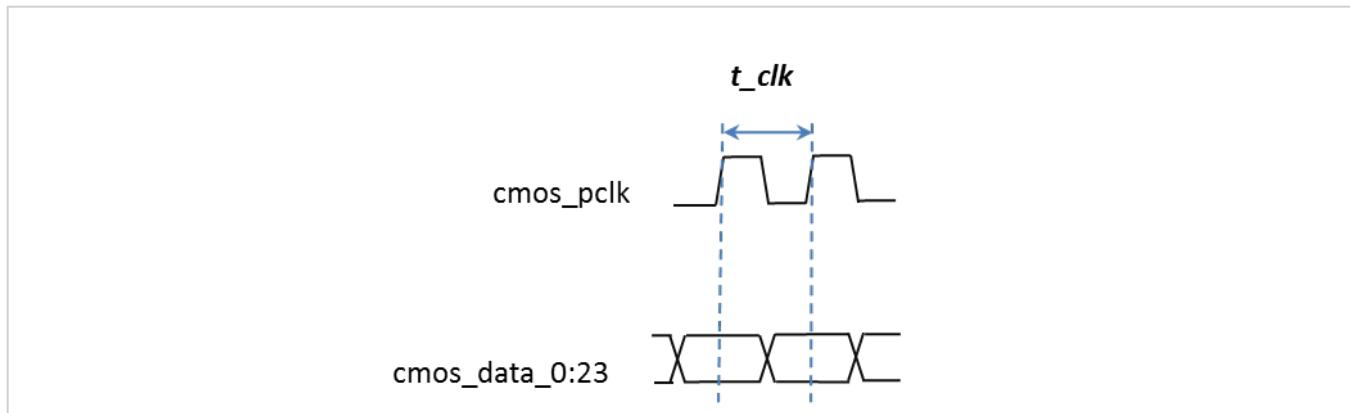

FIGURE 57: PHASE OF PIXEL CLOCK RELATIVE TO CMOS DATA
4. All signals in the CMOS channel are latched on the rising edge of the pixel clock *cmos_pclk* as illustrated in Figure 57. As shown in Table 10, the period of the pixel clock is either 27.000 MHz or 13.500 MHz depending upon whether or not the averager feature is enabled (Section 7.2).